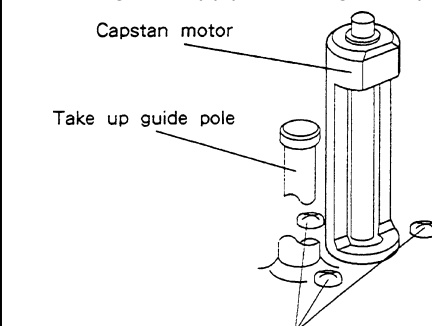

Fig. 2-6 Capstan motor fastening screws
- Remove three fastening screws shown in Fig. 2-6 and remove the capstan motor.
- Fasten the motor with three fastening screws.(Refer to Fig. 2-6.)